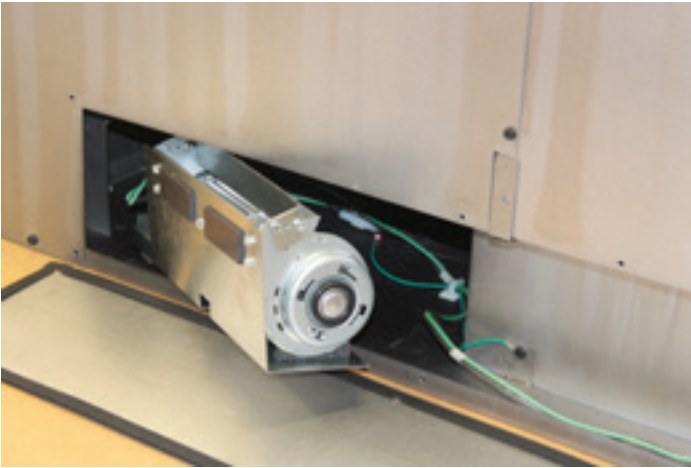

**Figure 3**
5. Locate the blower wire terminals inside the bottom of the fireplace and make the three connections as shown in **Figure 3.**